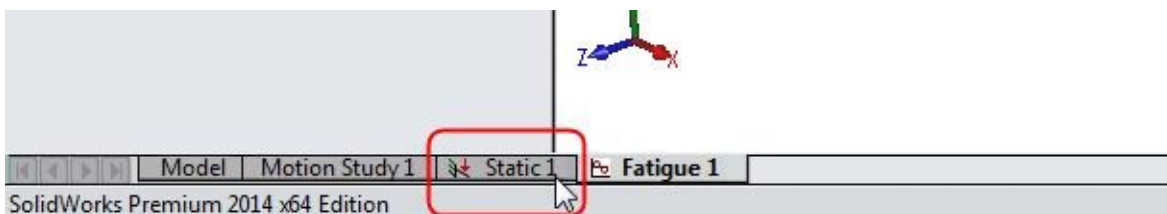
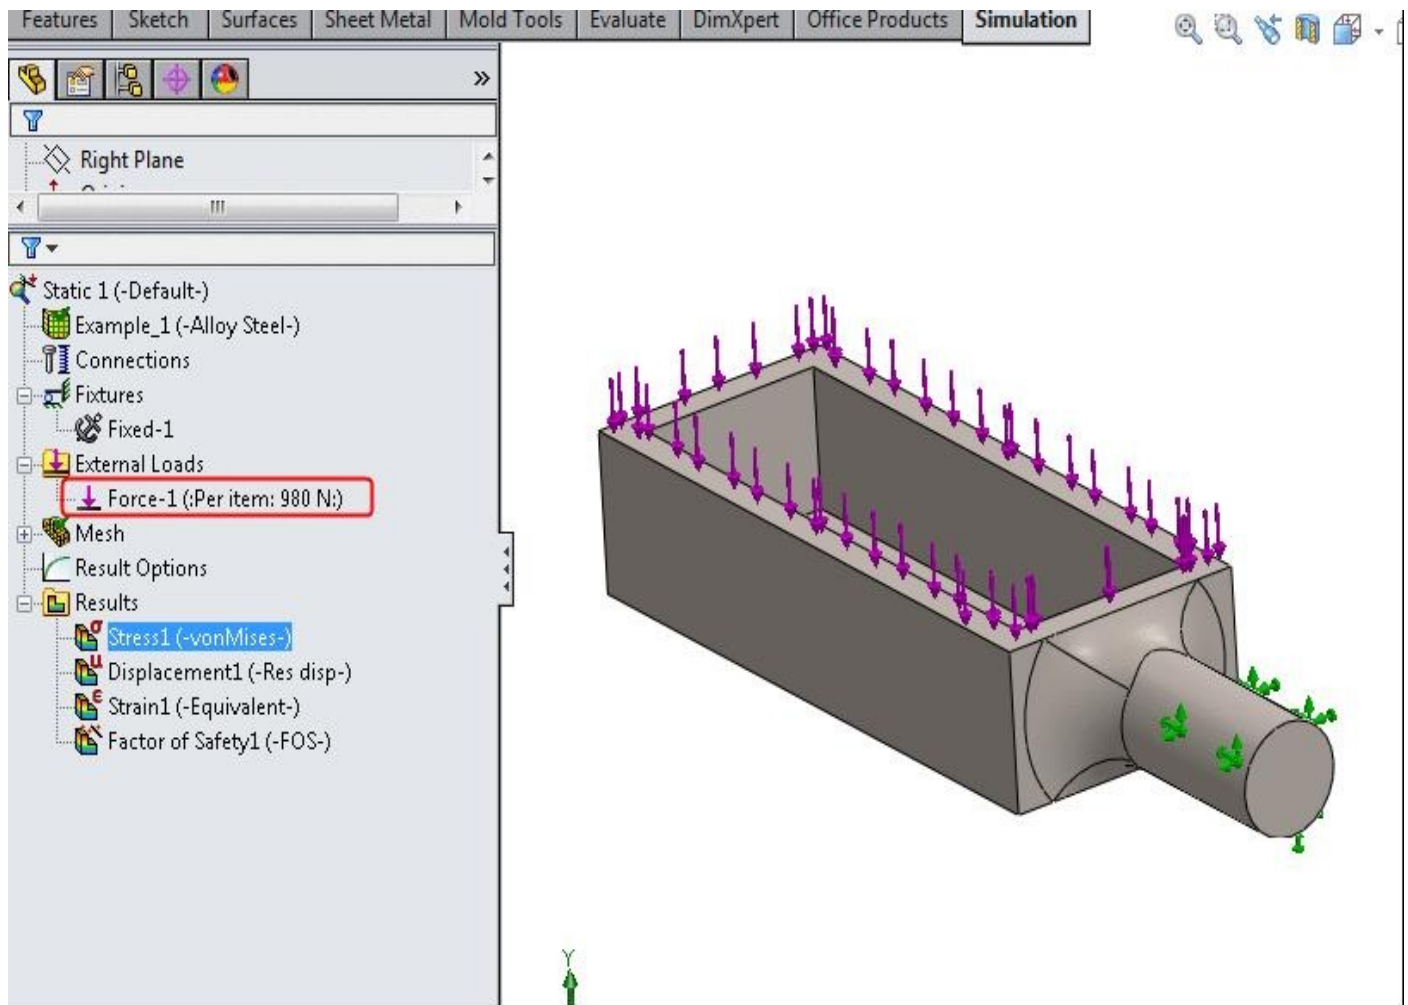

Figure-10. Static 1 tab
Figure-11. Static analysis earlier performed
- Click on the **Static 1** tab in the bottom bar of **SolidWorks**; refer to Figure-10. The static analysis will open; refer to Figure-11.
- Double click on the **Force-1** node in the **Analysis Manager**; refer to Figure-11. The **Force/Torque PropertyManager** will be displayed.